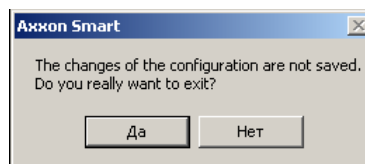

Fig. 6.1—2 Message displayed when exiting the program without saving changes
*NOTE.* If the settings of a newly created object have not been saved, the  icon will appear on the tab, literally indicating that the changes to the tab have not been saved. Then, when you are exiting the program, a message will appear (Fig. 6.1—2) asking whether you want to exit without saving changes.